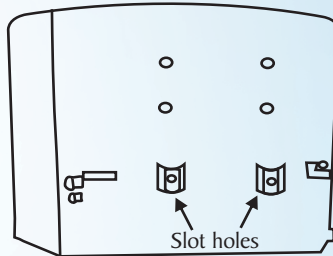

Figure 1
- Carefully hang the purifier on the wall with the help of wall mounting slot holes present on the back side of the purifier as shown in Figure 1.